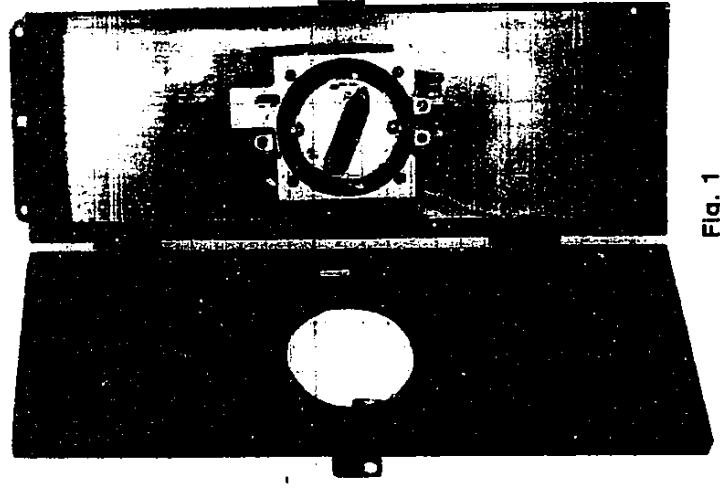

Fig. 1
- Loosely secure the door rings with the 3 screws provided (6-32 X 1/4). Position the interior ring (has the latch tabs and threaded holes) as shown in Fig. 1. The exterior ring mounts on the outside of the door with the small flange to the inside (as shown in Fig. 2).